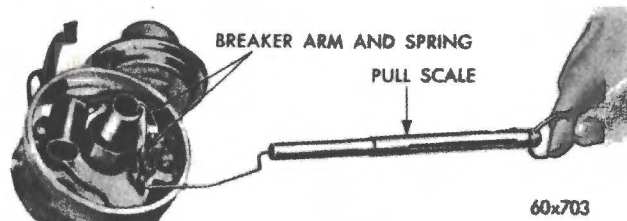

Fig. 2 - Testing breaker arm spring tension.
(1) Remove the old contact points and install a new set.
(2) Align the contacts to provide centre contact by bending the stationary contact bracket only. NEVER BEND MOVABLE ARM TO OBTAIN ALIGNMENT.
(3) After aligning the points, adjust the point gaps to specifications using a dial indicator.
(4) Test and adjust the breaker arm spring tension, by hooking a spring scale on the breaker arm. Pull the scale in a straight line at right angles to the point surfaces (Fig. 2) and read the scale as the points start to separate.
(5) If spring tension is not within specifications (14 - 17½ oz.), another breaker lever must be installed.
(6) Lubricate the breaker lever pivot with one drop of light engine oil. Apply a small amount of heat resisting grease to a clean cloth and very lightly wipe over the distributor cam.